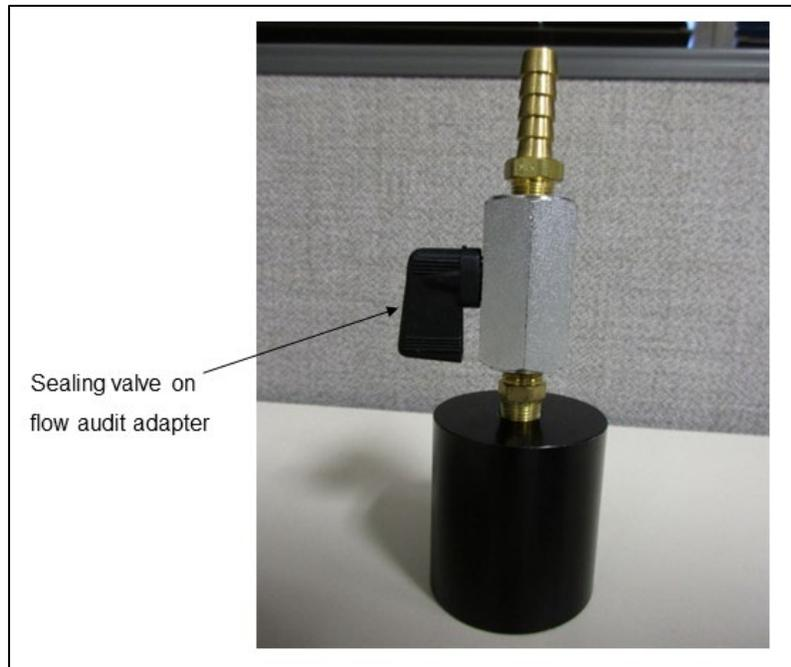

Figure AR-5. Flow audit adapter.
17. Remove PM10 sample inlet from the inlet tube. Install the flow audit adapter (Figure AR-5) onto the sampler inlet with the valve in the open position.
25. Attach the flow audit adapter (Figure AR-5) to the top of the sampler inlet and slowly close the valve. Request the operator to select the Next > button.